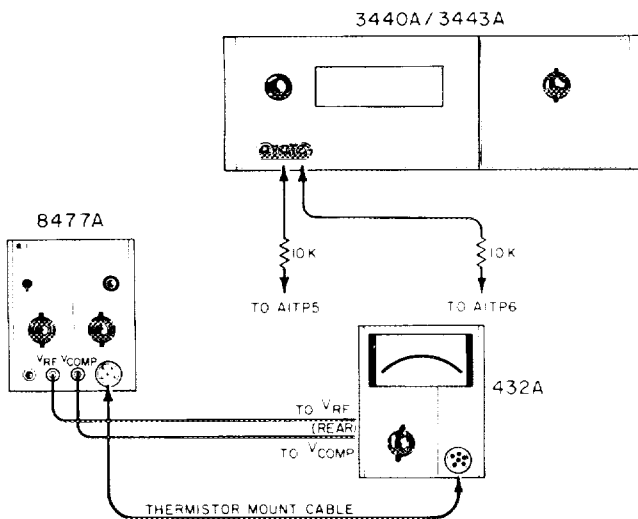

Figure 5-3. Bridge Amplifier Test
- (1) Turn instrument off.
- (2) Rotate the meter mechanical adjustment screw clockwise until the meter is to the left of zero and moving up the scale toward zero. Stop when the pointer is exactly over the zero mark. If the pointer overshoots, repeat step 2.
- (3) When the pointer is exactly on zero, rotate the adjustment screw approximately three degrees counterclockwise. This frees the adjustment screw from the meter suspension. If the pointer moves during this step, repeat steps 2 and 3.
a. Connect equipment as shown in Figure 5-3.
- (1) Connect 3440A/3443A between A1TP5 and A1TP6 (using 10K isolation resistors).
- (2) Make the following settings: